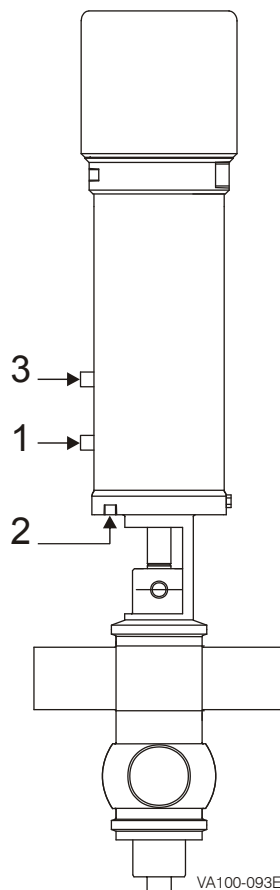
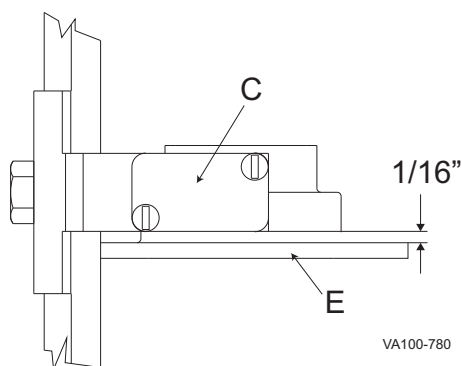

Figure 3 - Solenoid Valve Port Connections
Figure 4 - Proximity Switch Location
4. Supply air to Port 1 (see Figure 3 on page 13), allowing the valve insert to completely drop into the body.
6. Connect the air lines to 1, 2 and 3, as shown in Figure 3 on page 13.
See Figure 3 on page 13 for port positions.
Adjust the proximity switch (Figure 4, item C) so that it has 1/16" clearance above the detection cap (item E), but without compressing it.
Perform a test to verify the fully closed fail-safe position. Both the upper and lower valve plugs are position-detectable via proximity switches. Set the valve plug feedback proximity switches for the fully opened and fully closed positions of the valve. See Figure 3 on page 13 for corresponding ports. See Figure 4 to confirm the stem and switch positions have a 1/16" clearance.